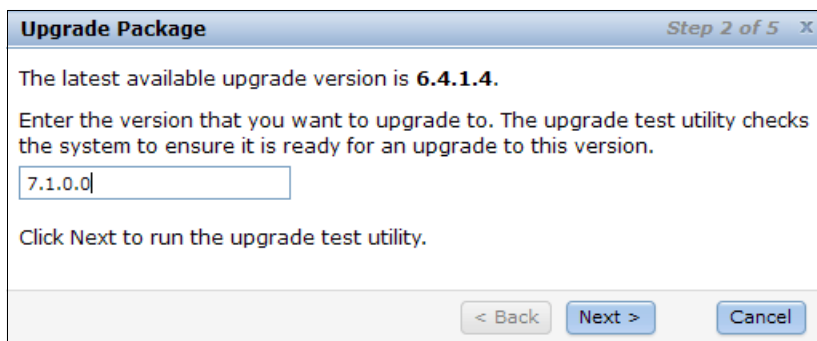

Figure 13-19 Step 2 of 5 - Run upgrade test utility
6. Enter the correct version info that you want to upgrade to. In this example, our upgrade version is 7.1. The upgrade test utility checks the system to ensure it is ready for an upgrade to this version. Click **Next** to run the upgrade test utility, as shown in Figure 13-19.